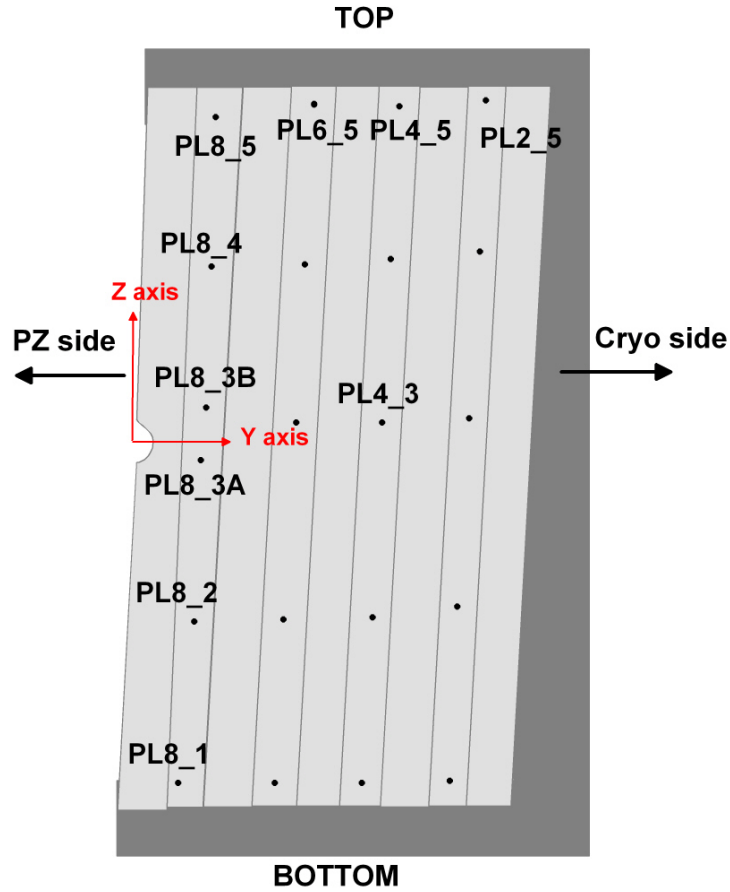

Figure 5 : Point positions
- $n$ , the chamber number (see figure 5)